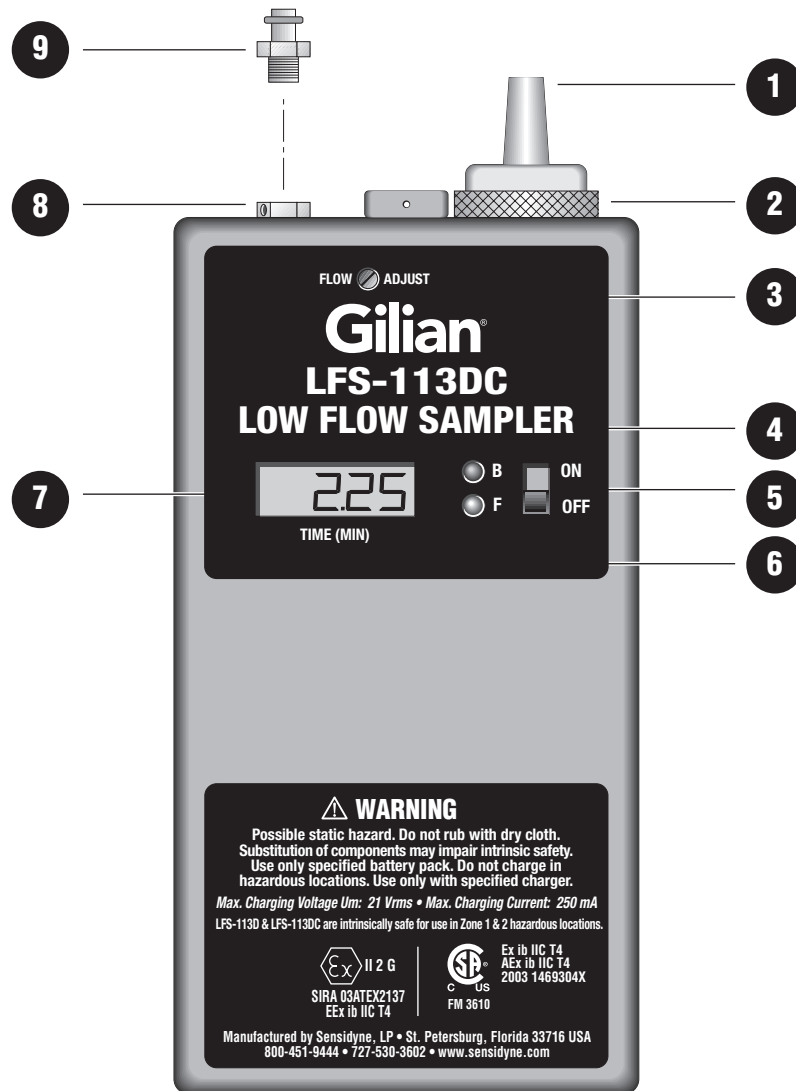

Figure 1.1
- **See Figures 1.1 and 1.2**
- (1) Inlet Boss
• See Figure 1.1, #1